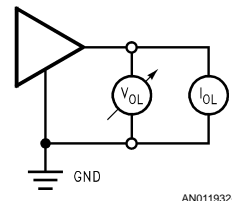

FIGURE 7.  $V_{OL}$  Test Circuit
**$V_{OL}$ —Low Level Output Voltage.** The output voltage at an output terminal with input conditions applied that, according to the product specification, will establish a logic low level at the output. This voltage is measured with respect to circuit common (ground). See Figure 7.